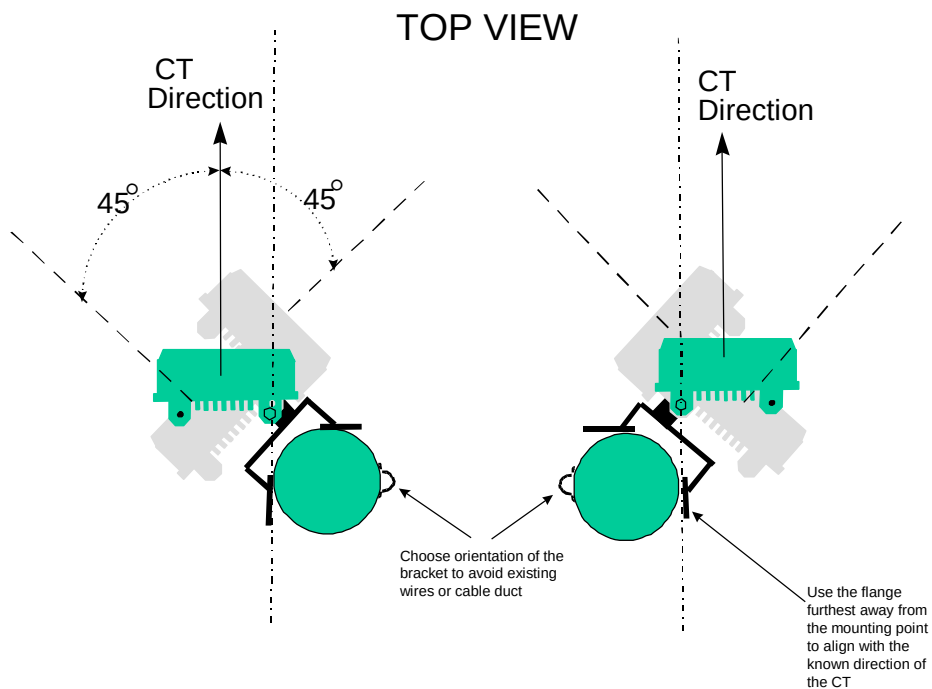
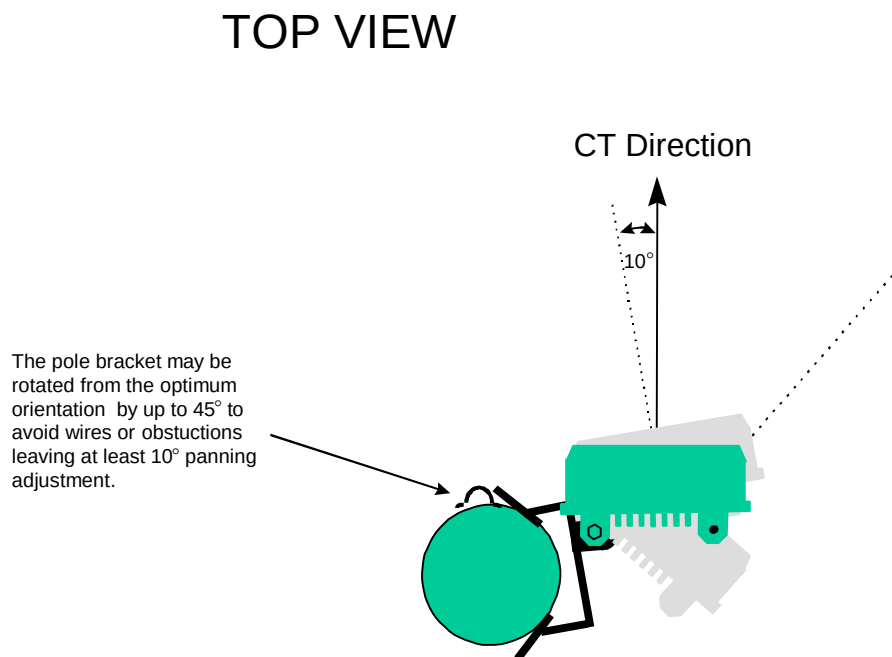

Figure 7. Choice Of Bracket Orientation
Figure 8. Non-Ideal Bracket Orientation
2. Before fitting the mounting bracket establish the direction of the RLT site so that the mounting bracket can be positioned in the correct orientation to allow a suitable panning swing of the CRU (see Figure 7). Use a compass if necessary.
3. *Note: The CRU is not used for the initial installation of the bracket. The CRU body is only shown in Figure 7 and Figure 8 to illustrate the final position and panning angles.*
4. There are two choices for bracket orientation that can be selected by turning the bracket upside-down. The actual choice depends upon the presence of wire or cable ducting that may interfere with the mounting of the bracket against the pole. Line up the mounting flange edge furthest away from the CRU mounting point to the known direction of the RLT. This may be done at a convenient height for eye level alignment and the bracket then moved vertically up or down to the intended position. If the desired orientation of the bracket is not possible some additional rotation is acceptable provided that a minimum panning adjustment angle of 10° is maintained (see Figure 8).